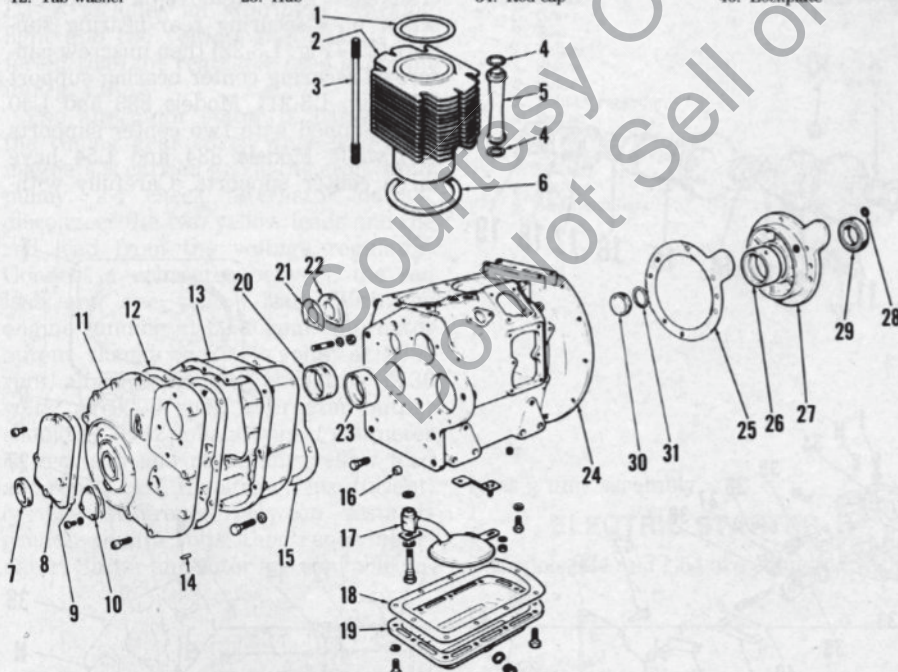

Fig. L3-22—Exploded view of typical crankcase assembly.
Piston height in cylinder is adjusted using shim gaskets (6—Fig. L3-22). With piston at top dead center, piston crown should be 0.0-0.1 mm below top of cylinder. Install shims (6) to obtain desired piston height.
R&R AND OVERHAUL. To remove crankshaft, remove pistons and timing gear cover as previously outlined. Remove idler gear, oil pump gear and crankshaft gear. Remove oil pump. Unscrew nuts securing rear bearing support (27—Fig. L3-22) then unscrew capscrews securing center bearing support (41—Fig. L3-21). Models 833 and L40 are equipped with two center supports (41) while Models 834 and L54 have three center supports. Carefully with-
Main bearing cap (43) has a serrated parting face. Install cap in support so reference numbers on cap and support are on same side. Tighten main bearing cap screws to 49 N·m. Tighten center main bearing support screws to 49 N·m and nuts securing rear main bearing support (27 - Fig. L3-22) to 39.2 N·m.